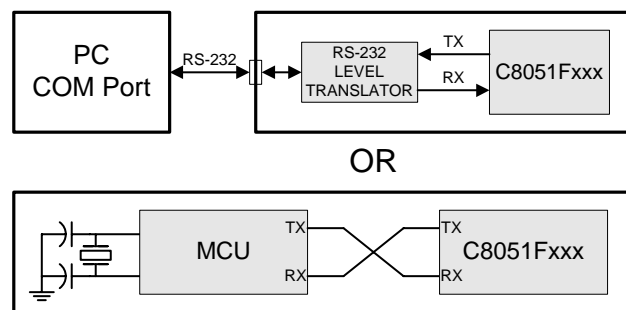

Figure 13.5. Typical UART Interconnect Diagram
In typical UART communications, The transmit (TX) output of one device is connected to the receive (RX) input of the other device, as shown in Figure 13.5.